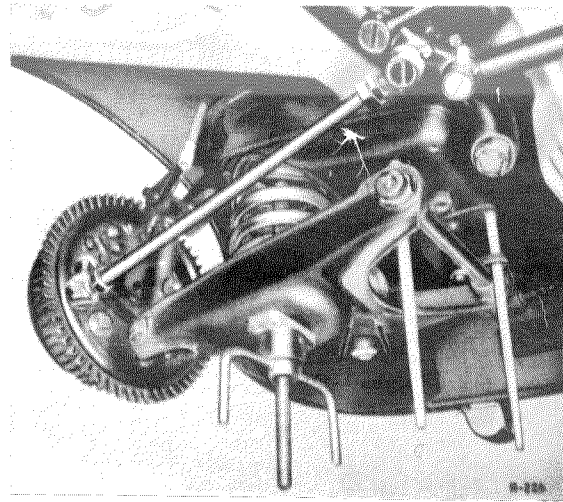

Fig. 32 — 4/3
11. Place the washer (rubber ring) on the faced end of the spring and insert the spring into the dome of the front axle support so that the washer points upward. Then press upward the lower control arm and whilst doing this, slide the control arm pivot pin into the two guides previously screwed into the front axle support (Fig. 32 — 4/3).
12. Insert Spring Tensioner 120 589 01 31 from underneath through the control arm, the spring and the dome of the front axle support (see Fig. 32 — 4/3). Then screw a nut onto the spindle of the spring tensioner and lock it in position with the lock nut.